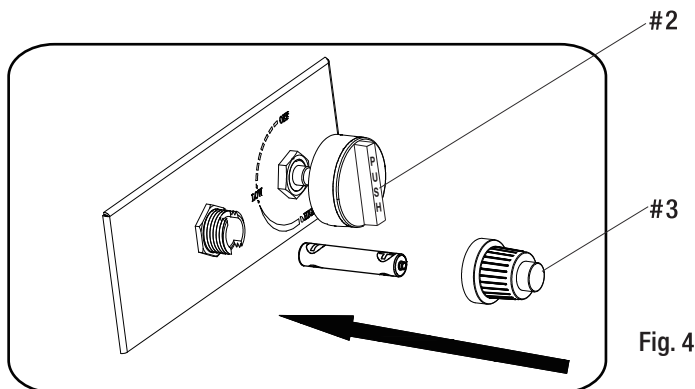

Fig. 4
- Cover the battery with the plastic cover (#3). (Fig.4)